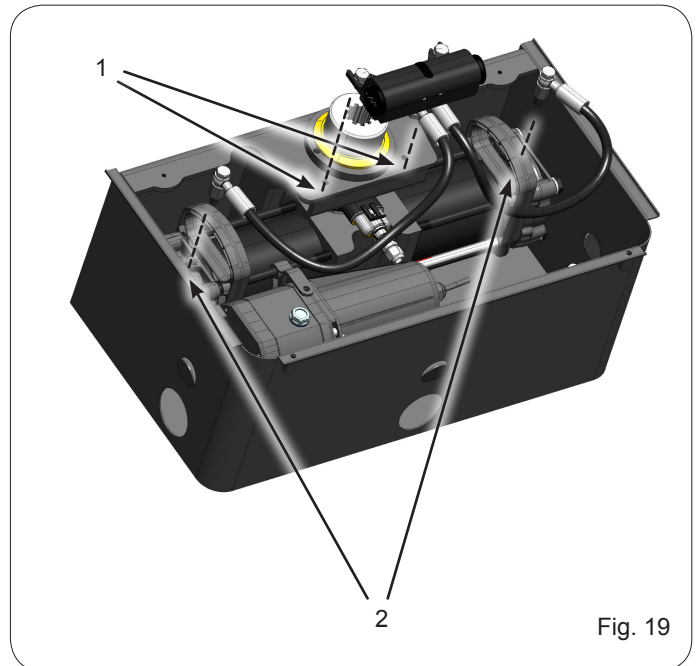

Fig. 19
- 2) Fasten the external release body to the load bearing box system using the two supplied M8 screws (fig. 19 ref. 1)
- 3) Remove the bleed unions on the operator, then connect those supplied with the release system (Fig. 19 ref. 2)